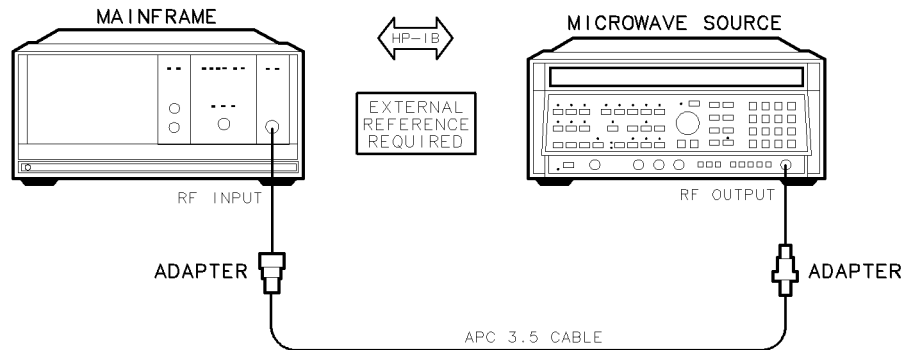

Figure 7-29. Reference Oscillator Noise and Stability Test Setup
2. Connect the HP 8340A/B synthesized sweeper’s RF OUTPUT to the DUT’s RF INPUT using the adapters and the APC 3.5 cable, as shown in Figure 7-29.